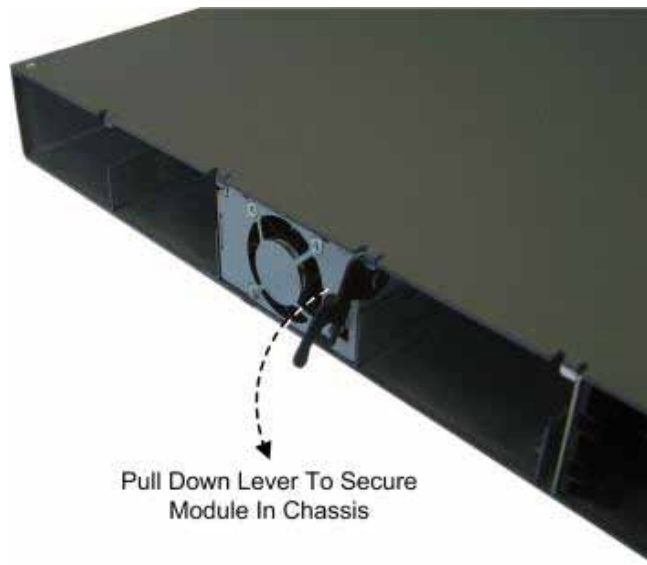

Figure 5-43. Securing PS Module in ICU Chassis
2. Push in the module until the lever meets the chassis (Figure 5-43).